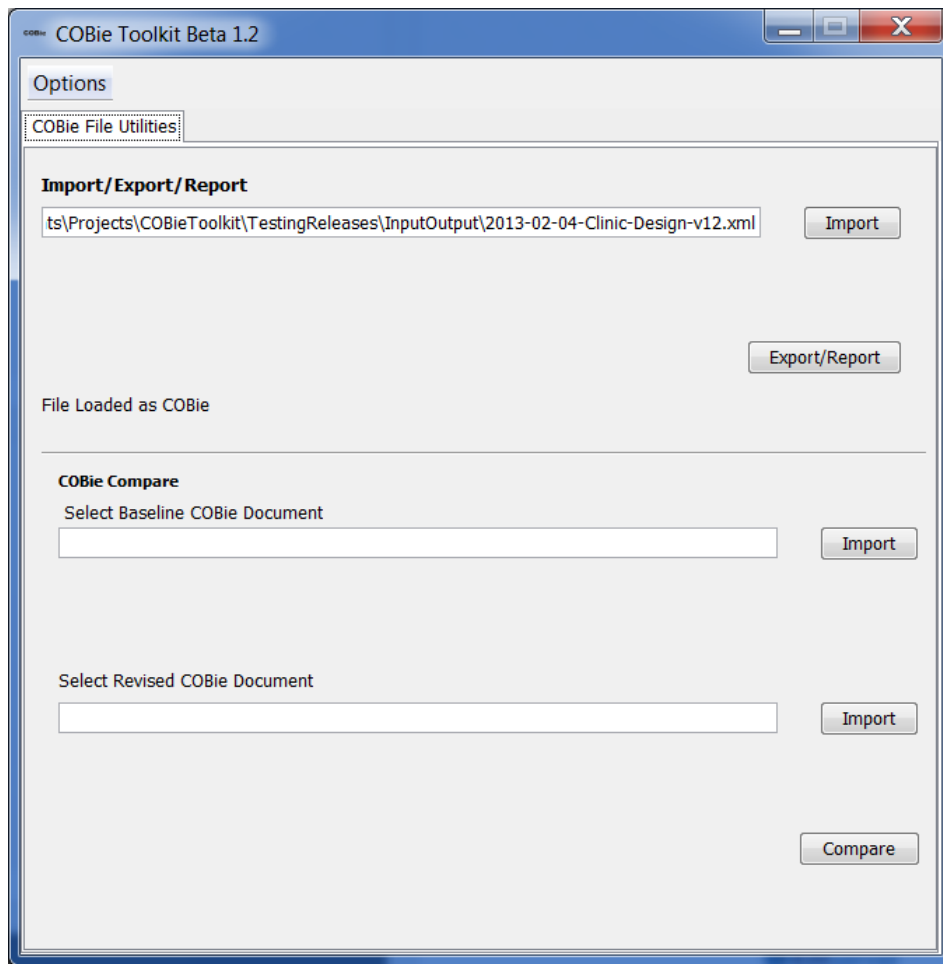

Figure 10: COBie Toolkit Window after COBie Import
3. Observe the progress bar until a message is displayed – File Loaded as COBie (see Figure 10)